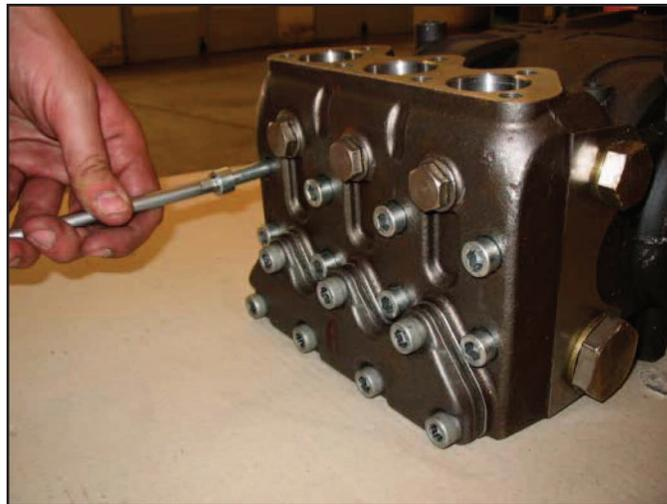

fig. 17
A) Unfasten the M10 x 110 head screws as shown in fig. 17.